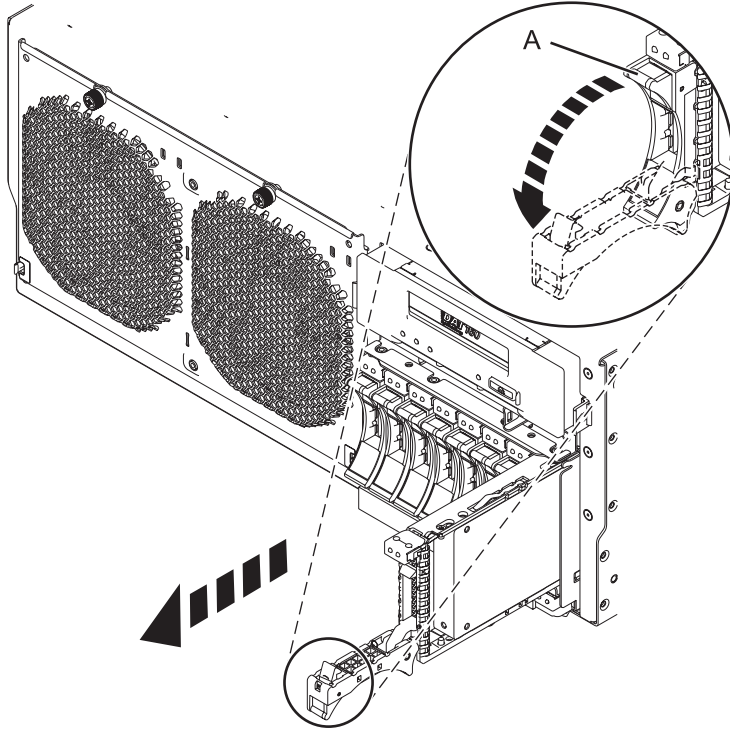

Figure 17. Removing a disk drive from the system
1. Unlock the drive handle by squeezing it and pulling it out toward you, as shown in Figure 17 on page 31. If the handle is not all the way out, the disk drive or solid-state drive cannot slide out of the system or out of the expansion unit.